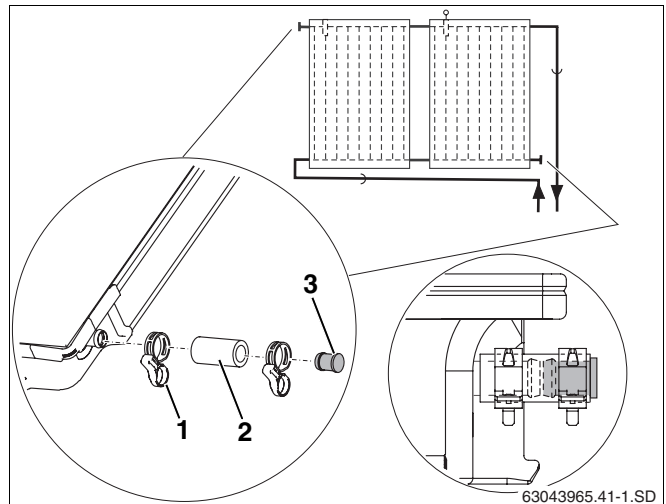

Fig. 43 Fitting the dummy plug and hose clip
- ▶ Put 55 mm solar hoses (Fig. 43, **Item 2**) together with the pre-assembled dummy plug onto the two free connections on the collector array.